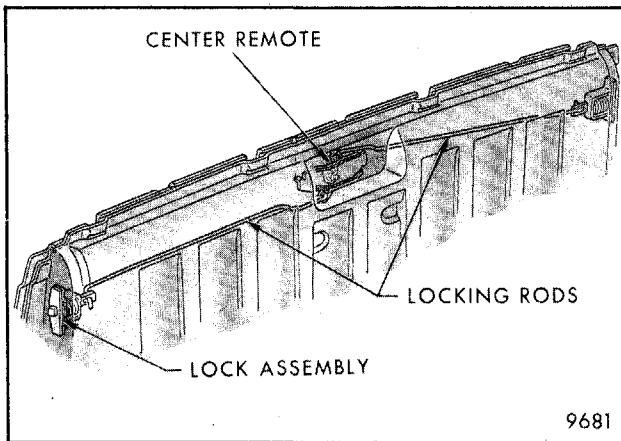

Fig. 7-99 - Tailgate Remote Assembly A-80 Style
2. Disconnect remote control-to-latch rods at remote assembly by sliding rod attaching clips out of engagement (Fig. 7-99).